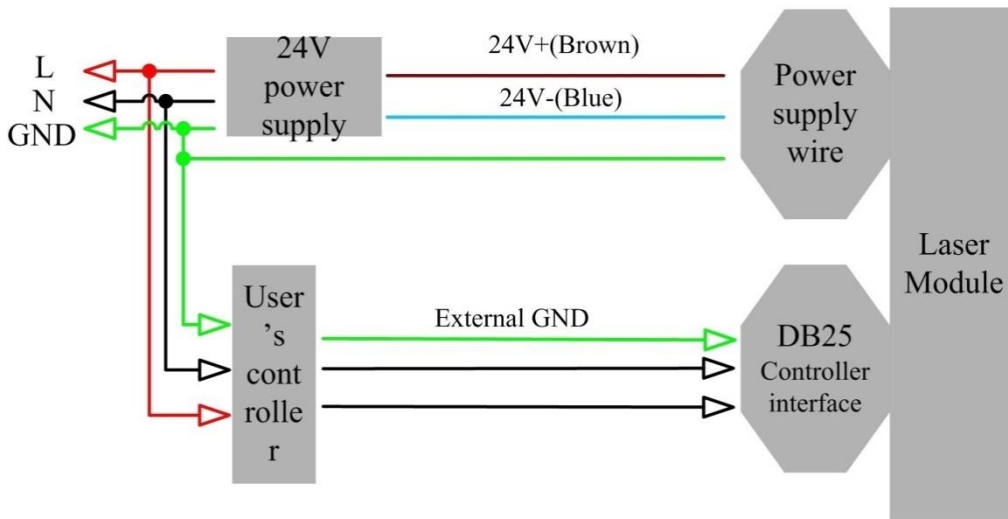

Figure 7. Wiring diagram of recommended electrical connection and power supply
- c) Make sure that the interface of the external controller matches the laser and the control cable is well connected to the laser's interface. The recommended electrical connection is shown in Figure 7.